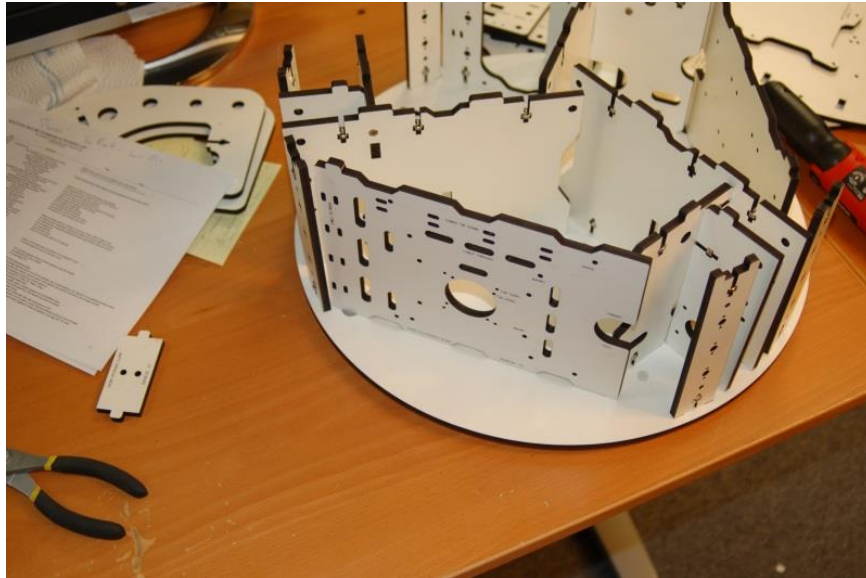

Figure 15 - Cover Brackets and Electronics Door installed.
1.20 – Install Electronics Mount (P/N: 68358) and Support Panel (P/N: 68357). Refer to Fig. 15 above for the location of the Electronics Panel. The door “pin” fits into the hole located next to the X axis T-Slot mount. If you’ve got the version of the door that has the LCD mount in it, you’ll want to swap the doors – install the LCD door where I show the electronics door, and the electronics door where I show the Support Panel going. The reason for this is that if, in the future you want to use dual extruders, the second extruder can block your access to the LCD panel if you’ve installed it where the Support Panel would normally be installed. Thanks to cjdavis618 in the SeeMeCNC forums for pointing this out!